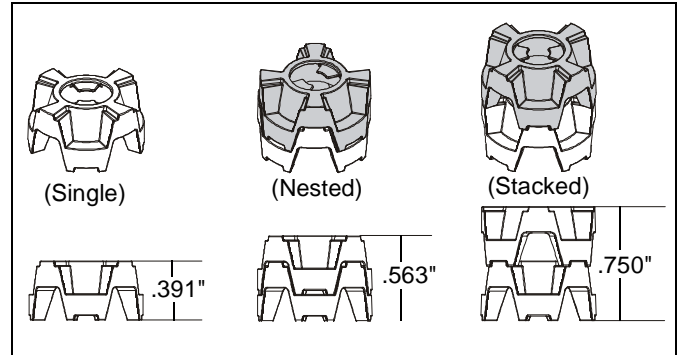

Figure 6
NOTE: The nesting spacers (MA) may be used separately, or put two together in different configurations to create different size spacers. (See Figure 6)